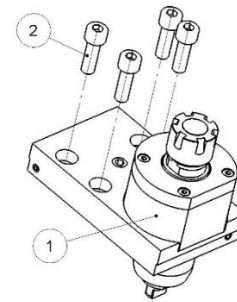
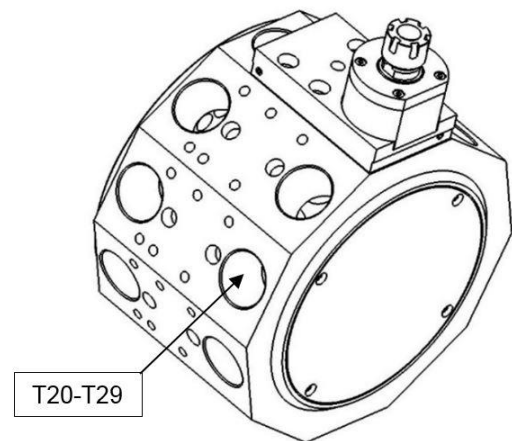

Figure 1
Figure 3
To fix the tool holder (fig. 1, pos. 1), centre the shank in positions T20 to T29 on the machine (fig. 3). Tighten the 4 M8 screws (fig. 1, pos. 2).